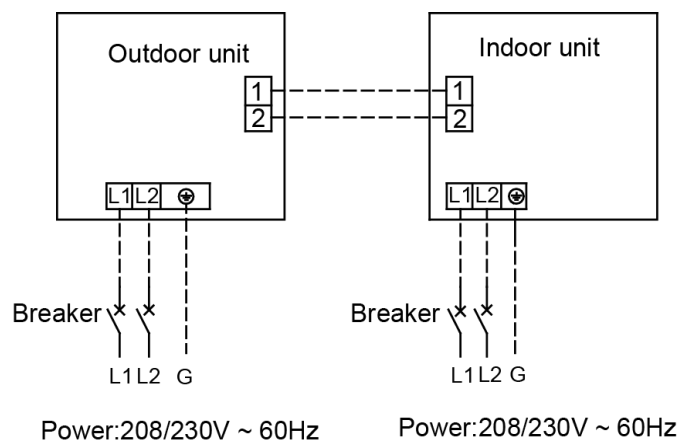

Figure 3-4-4
- ①. The power cord and the wire of the fresh air valve are high-voltage, while the communication cord and connection wire of the wired controller are low-voltage. They should run separately against electromagnetic interference.
- ②. The high-voltage and low-voltage lines should pass through the rubber rings at different electric box covers.
- ③. Do not bundle the connection wire of the wired controller and the communication cord together, or arrange them in parallel, otherwise improper operation would occur.
- ④. The high-voltage and low-voltage lines should be fixed separately and securely, with internal big clamps for the former and small clamps for the latter.
- ⑤. Tighten the indoor/outdoor connection cord and power cord respectively on the terminal boards with screws. Faulty connection may cause a fire.
- ⑥. If the indoor unit connection cord (to the outdoor unit) and power supply are wired incorrectly, the air conditioner may be damaged.
- ⑦. Connect the indoor unit connection cord properly based on the corresponding marks as shown in Figure 3-4-4.
- ⑧. Ground both the indoor and outdoor units by attaching a ground wire.
- ⑨. Unit shall be grounded in compliance with the applicable local and national codes.
(6) Electric wiring of outdoor unit side